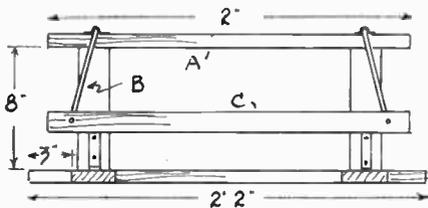
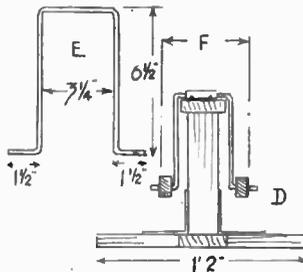
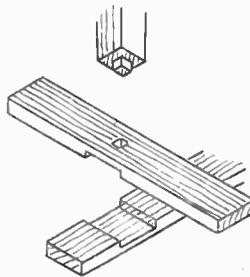
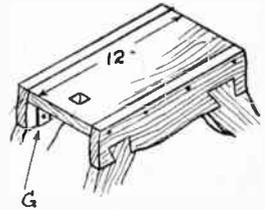

Fig. 1
Fig. 2
Fig. 3
Fig. 4
A side view of the stand is given in Fig. 1 and an end view in Fig. 2. For the wood, a good quality of deal will serve nicely. The sizes of timbers are given in a cutting list and need therefore no mention in the text. Cut the ground members to length, these consist of one long timber with two side ones, jointed across. These joints are of the simple halved variety, common to all woodworkers, and clearly shown in Fig. 3. Glue and nail these across, as in the diagram.
At each end an upright post is to be fitted which supports part (A) on which the rockers swing. These posts, shown at (B) in the side view, are cut to the length, plus  $\frac{1}{4}$  in. at top and bottom for tenons, of the stub variety. Cut these  $\frac{1}{4}$  in. square. Mortises for them are cut in the ground members, as in detail, Fig. 3.
Figs. 1 and 2. For the rockers, seen at (E) in Fig. 2 and in position at (D), get some  $\frac{1}{2}$  in. wrought iron rod and bend to the shape and dimensions given in the drawing. Readers who may not feel confident enough to do this job themselves could have it done for them by any smith or ironworker locally. The sizes must be strictly adhered to though, and the work competently done. These are laid across part (A), just over the centre of the posts, and held in position by metal straps, 2 ins. wide, with the centres raised to U-shape enough to hold the rockers in place yet allow of free motion.
A pair of rocking bars (C) are then cut. At a distance from each end of  $1\frac{1}{2}$  ins. bore a  $\frac{1}{4}$  in. hole through these bars and slip them on the 'stick-out' ends of the rockers. This arrangement is clearly seen in the end view of the stand, Fig. 2. Though there is not much fear of the bars riding off the rockers, it would make for
definite safety if a hole were drilled through the projecting ends of them and a split pin inserted to keep the bars from slipping off. A footboard is then screwed across the bars, a little in advance of the centre for the kiddies' feet to rest upon. This is not shown in Fig. 1, but can be seen in the general view of the rocking horse. This board could be screwed underneath bars (C) instead of on top, if more convenient and suiting the length of leg of the child, but that is a matter for the reader to exercise his own judgment on.
A piece of the board is needed for the seat. Cut this to 12ins. long, and with width (F) (Fig. 2). Lay the horse's head on the board and mark on the latter the correct spot for a mortise to fit the tenon. Glue and nail the legs and sides to the seat, as in detail, Fig. 4, and in the angles underneath, as shown at (G), screw 2in. steel furniture brackets each side, four being required. Now round off the side edges of the seat for comfort, and glue the head in position. Additional strength for the head can be gained by driving a screw in from beneath the seat into it. Fit the horse on with stout screws driven through the hoofs into rocking bars (C).